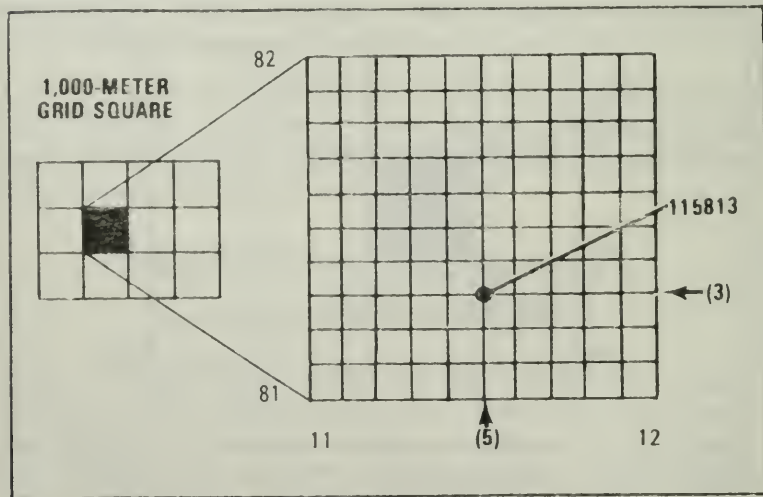

Figure 27. Grid square 1181 divided.
a. To get those extra numbers, pretend that each grid square has 10 lines inside it running north and south, and another 10 running east and west. This makes 100 smaller squares. You can estimate where these imaginary lines are (Figure 27).
Then the second half of your address is 813. Your address would be 115813 (Figure 27). (If you are exactly on line 81, the second part would be 810.)